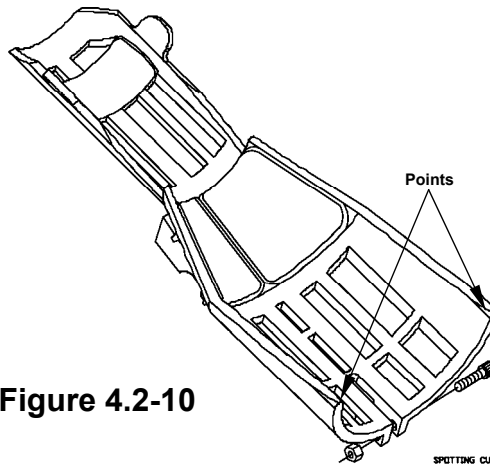

**Figure 4.2-9**
6. Adjust the Spot Rod so that the head of the Table Leg Screw just begins to lift off of the Table Leg Bracket. There should be a 1/16 to 3/32-inch gap (see Figure 4.2-9).